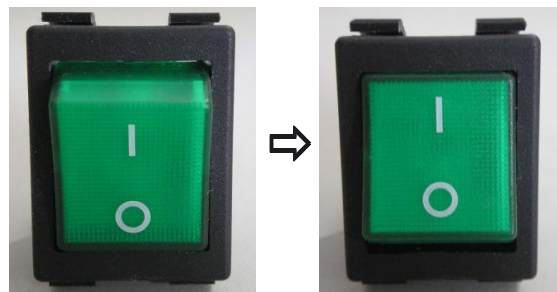

Fig7
- As fig7 shows power switch . Turn off as the left fig and turn on as right fig.